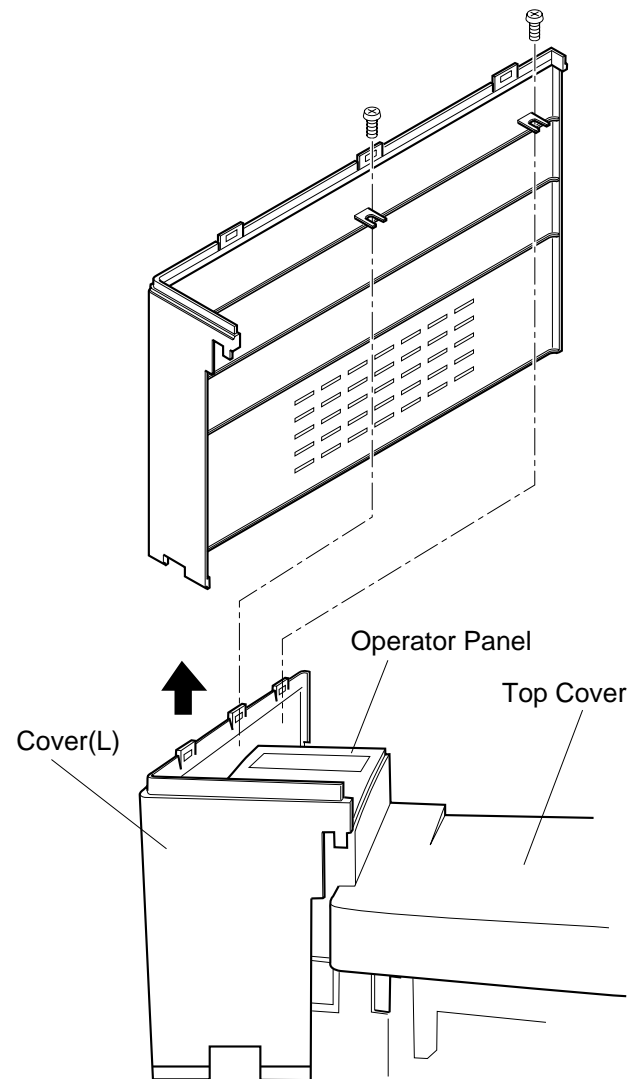

Fig.7-3
- ①. Open the front cover unit.
- ②. Remove the set screw BT4 × 8 (1 pc.) of side cover (R) at the rear side. (Fig.7-3)